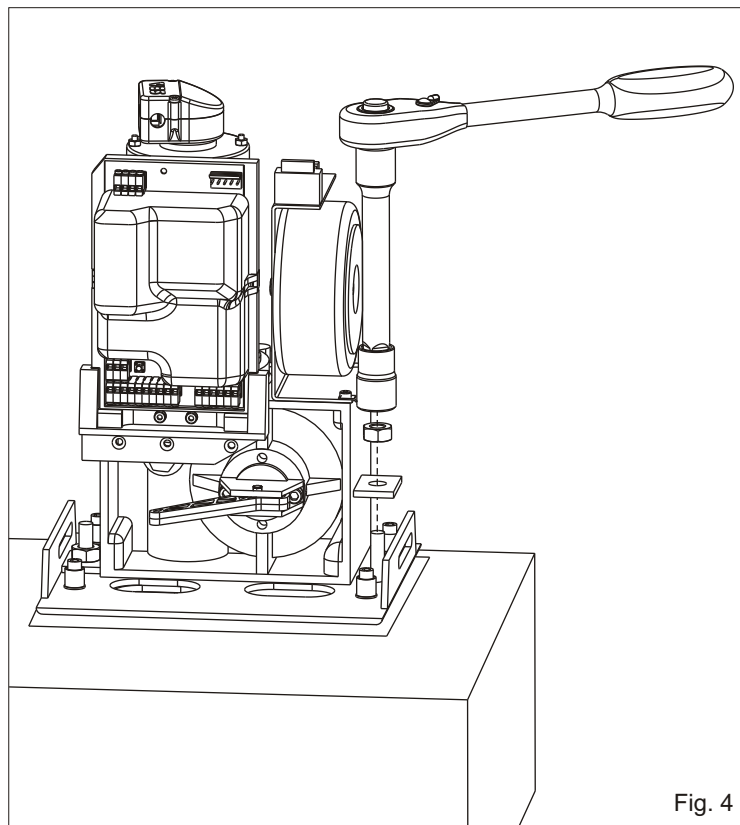

Fig. 4
3.3. Fix the motor reducer to the foundation plate with the supplied dices and washers (Fig. 4)